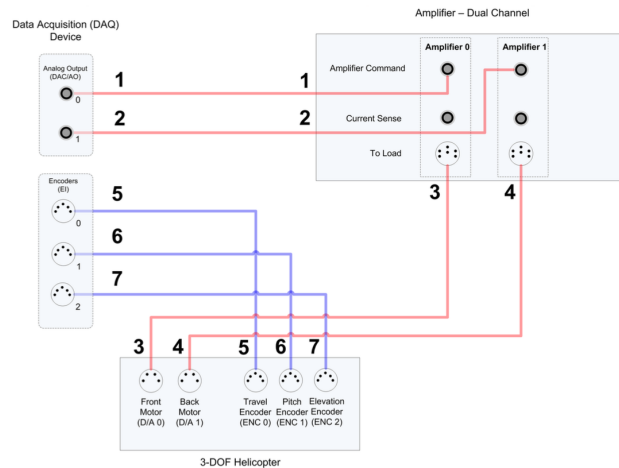

Figure 5: 3 DOF Helicopter system's wiring set up.
4. Ensure that the helicopter has been setup (tape removed) and all the connections have been made as shown in Figure 5.